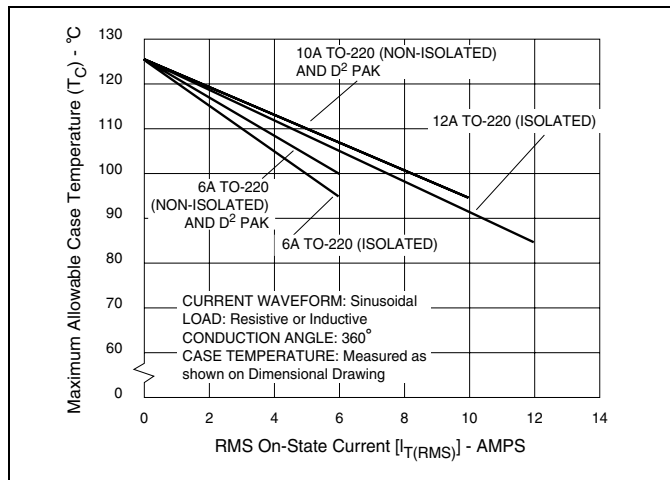
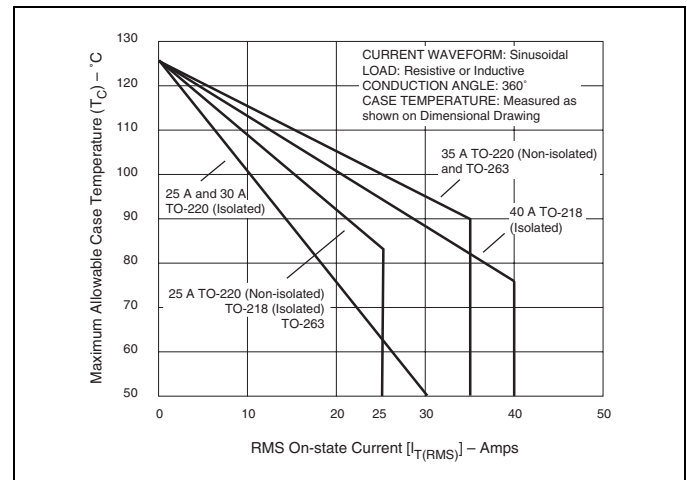
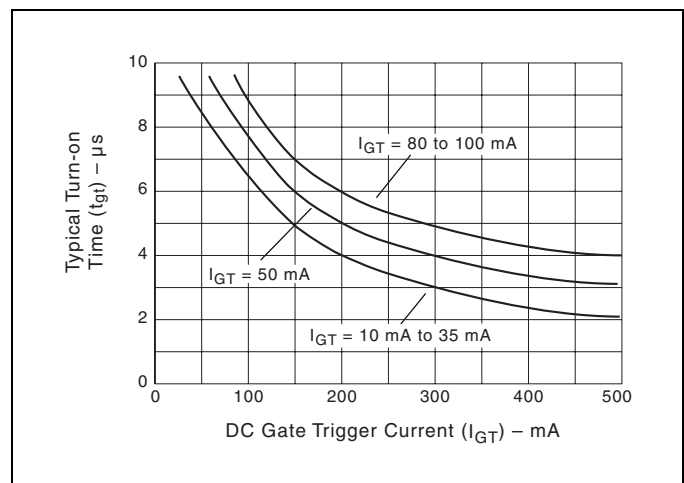

Figure E4.1 Maximum Allowable Case Temperature versus On-state Current (6 A to 12 A)
Figure E4.4 Maximum Allowable Case Temperature versus On-state Current (25 A to 40 A)
Figure E4.12 Turn-on Time versus Gate Trigger Current (Typical)
- (1) For either polarity of MT2 with reference to MT1 terminal
- (2) For either polarity of gate voltage (VGT) with reference to MT1 terminal
- (3) See Gate Characteristics and Definition of Quadrants.
- (4) See Figure E4.1 through Figure E4.4 for current rating at specific operating temperature and Figure 4.16 for free air rating (no heat sink).
- (10) See Figure E4.12 for  $t_{GT}$  versus  $I_{GT}$ .
- (11) See package outlines for lead form configurations. When ordering special lead forming, add type number as suffix to part number.
- (12) Initial on-state current = 400 mA dc for 16 A to 40 A devices and 100 mA for 6 A to 12 A devices.
- (13) See Figure E4.1 through Figure E4.4 for maximum allowable case temperature at maximum rated current.
- (14) Pulse width  $\leq 10 \mu s$ ;  $I_{GT} \leq I_{GTM}$
- (15) For 6 A to 12 A devices,  $R_L = 60 \Omega$ ; 16 A and above,  $R_L = 30 \Omega$
- (16) 40 A pin terminal leads on K package can run 100 °C to 125 °C.
- (17) Alternistor does not turn on in Quadrant IV.
- (18)  $T_C = T_J$  for test conditions in off state
- (19)  $I_{GT} = 200$  mA for 6 A to 12 A devices and 500 mA for 16 A to 40 A devices with gate pulse having rise time of  $\leq 0.1 \mu s$ .
- (20) Minimum non-trigger  $V_{GT}$  at 125 °C is 0.2 V.